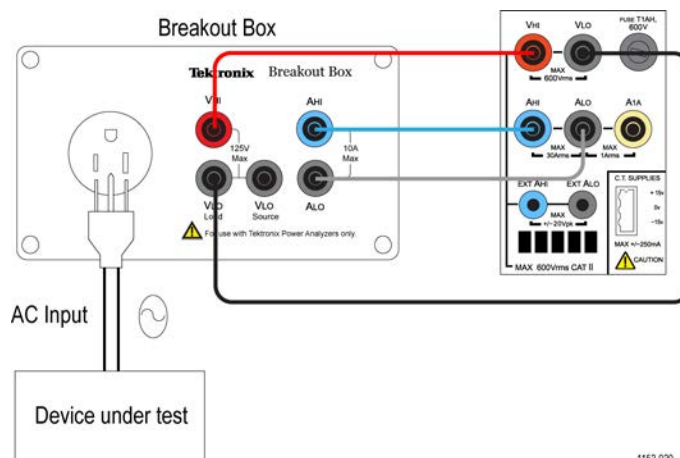

Figure 58: Inrush current measurement wiring diagram
- Connect the DUT using a Tektronix Breakout Box (BB1000) as shown in the wiring diagram. (See Figure 58.)